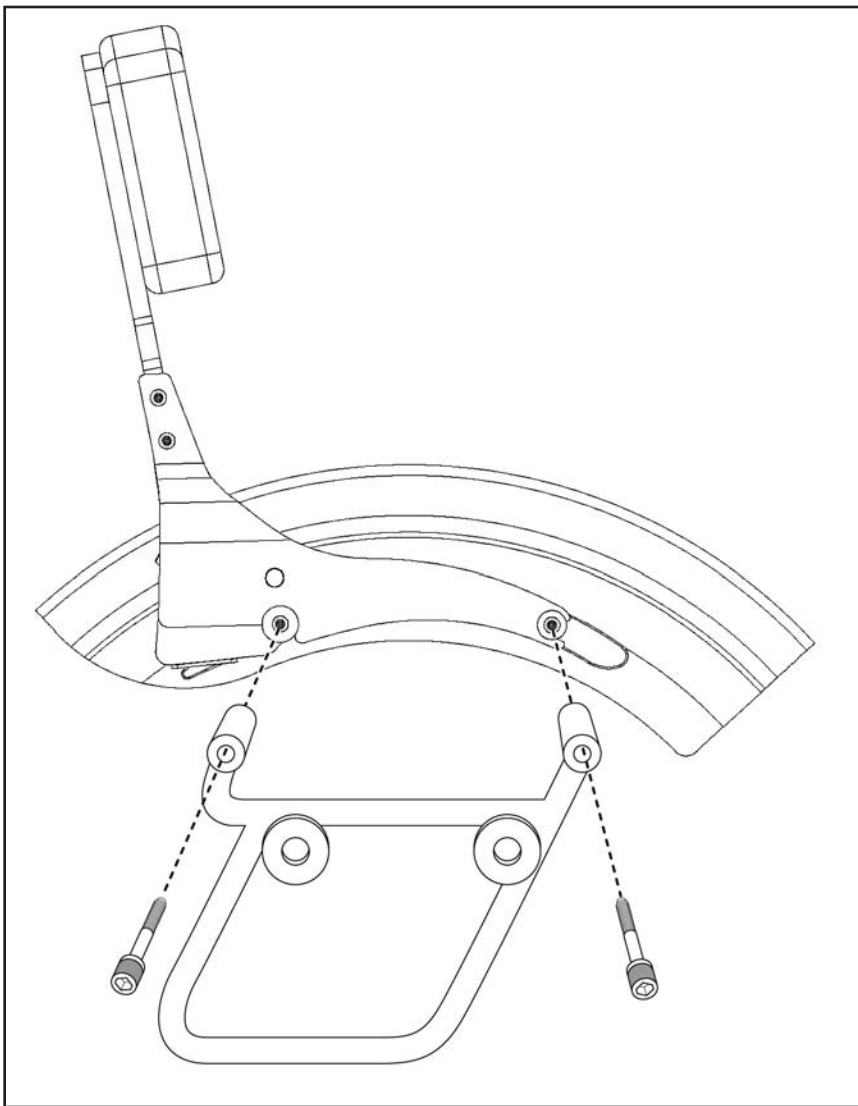

Figure 5
3. Install the frame bracket using the four M8-1.25 x 75mm screws from Bag #884 and the whizlok nuts contained in this kit. **(6mm Hex Key and 13mm Wrench) Figure 5**